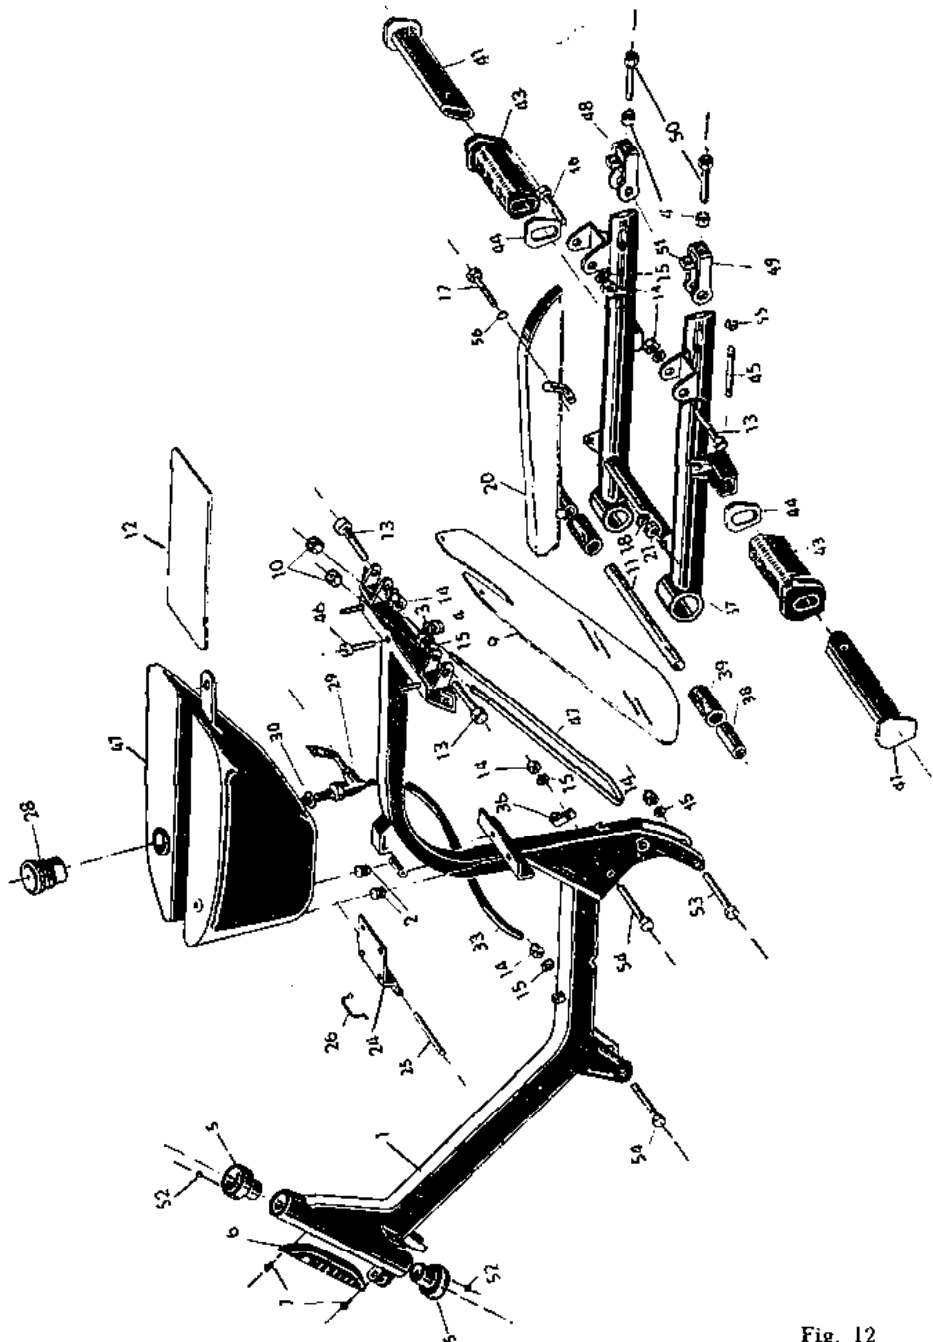

Fig. 12
18. Dismantling the rear swinging fork (fig. 12)